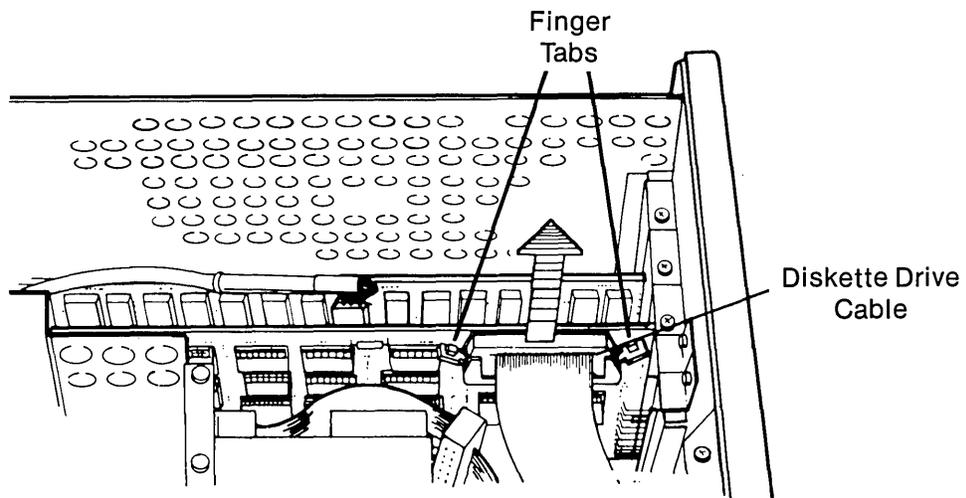

Figure 11-7. Removing the Diskette Drive Cable From Diskette/Printer Adapter Board.
4. Disconnect the diskette drive cable from the diskette/printer adapter board by pressing on the finger tabs located on either side of the connector (see Figure 11-7).